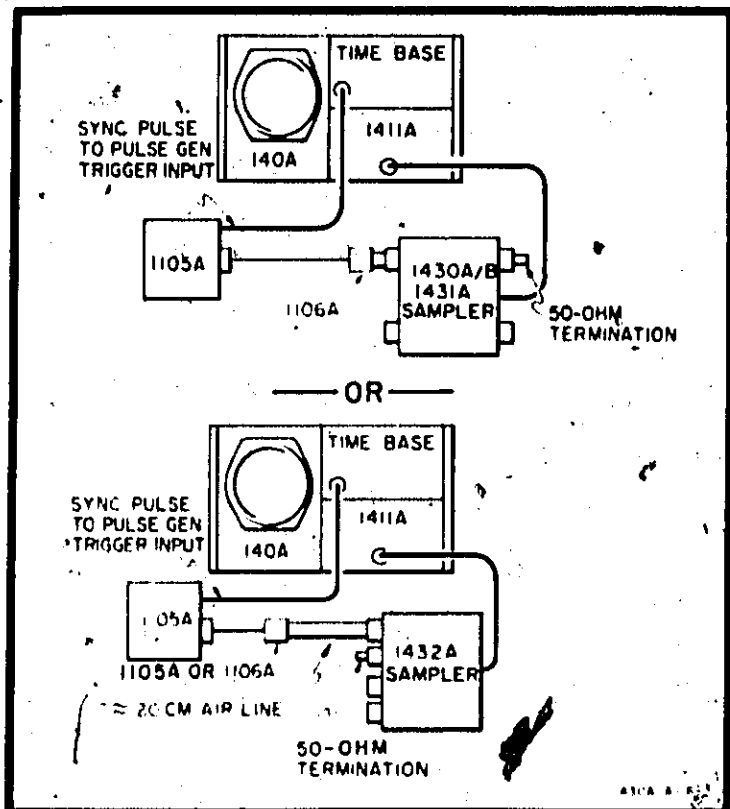

Figure 5-1. Risetime Test Setup
5-7. Assemble the Model 1411A/time base/oscilloscope combination (Figure 5-1) according to instructions in the Model 1411A Operating and Service Manual and allow at least 10 minutes for warm-up. The time base, oscilloscope and all test equipment must be calibrated and operating properly before proceeding with performance checks and adjustments for the sampler.
b. Using a fast risetime pulse generator such as HP Model 1105A/1106A (HP Model 1105A/1108A may be used with Model 1432A Sampler if desired) and connect equipment as shown in Figure 5-1. Connect pulse generator to channel A INPUT. Use cable furnished with Model 1105A between Model 1105A and Model 1106A (1108A). If sampler is a Model 1432A isolate pulse generator from sampler with approximately 20 cm of air line.